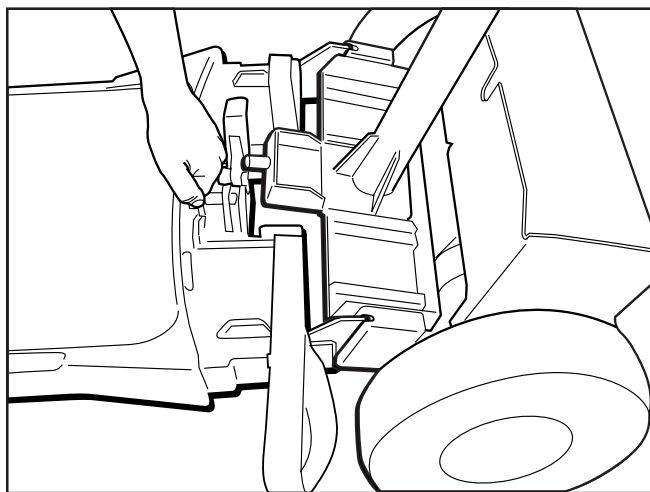
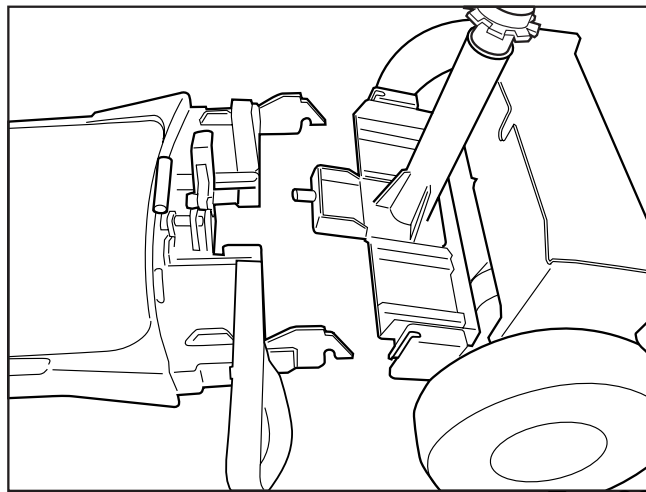

Fig. 22
Fig. 23
- 10.** The latch will swing open. Now simply lift the "T" handle and the unit comes apart. (Fig. 22 and Fig. 23)